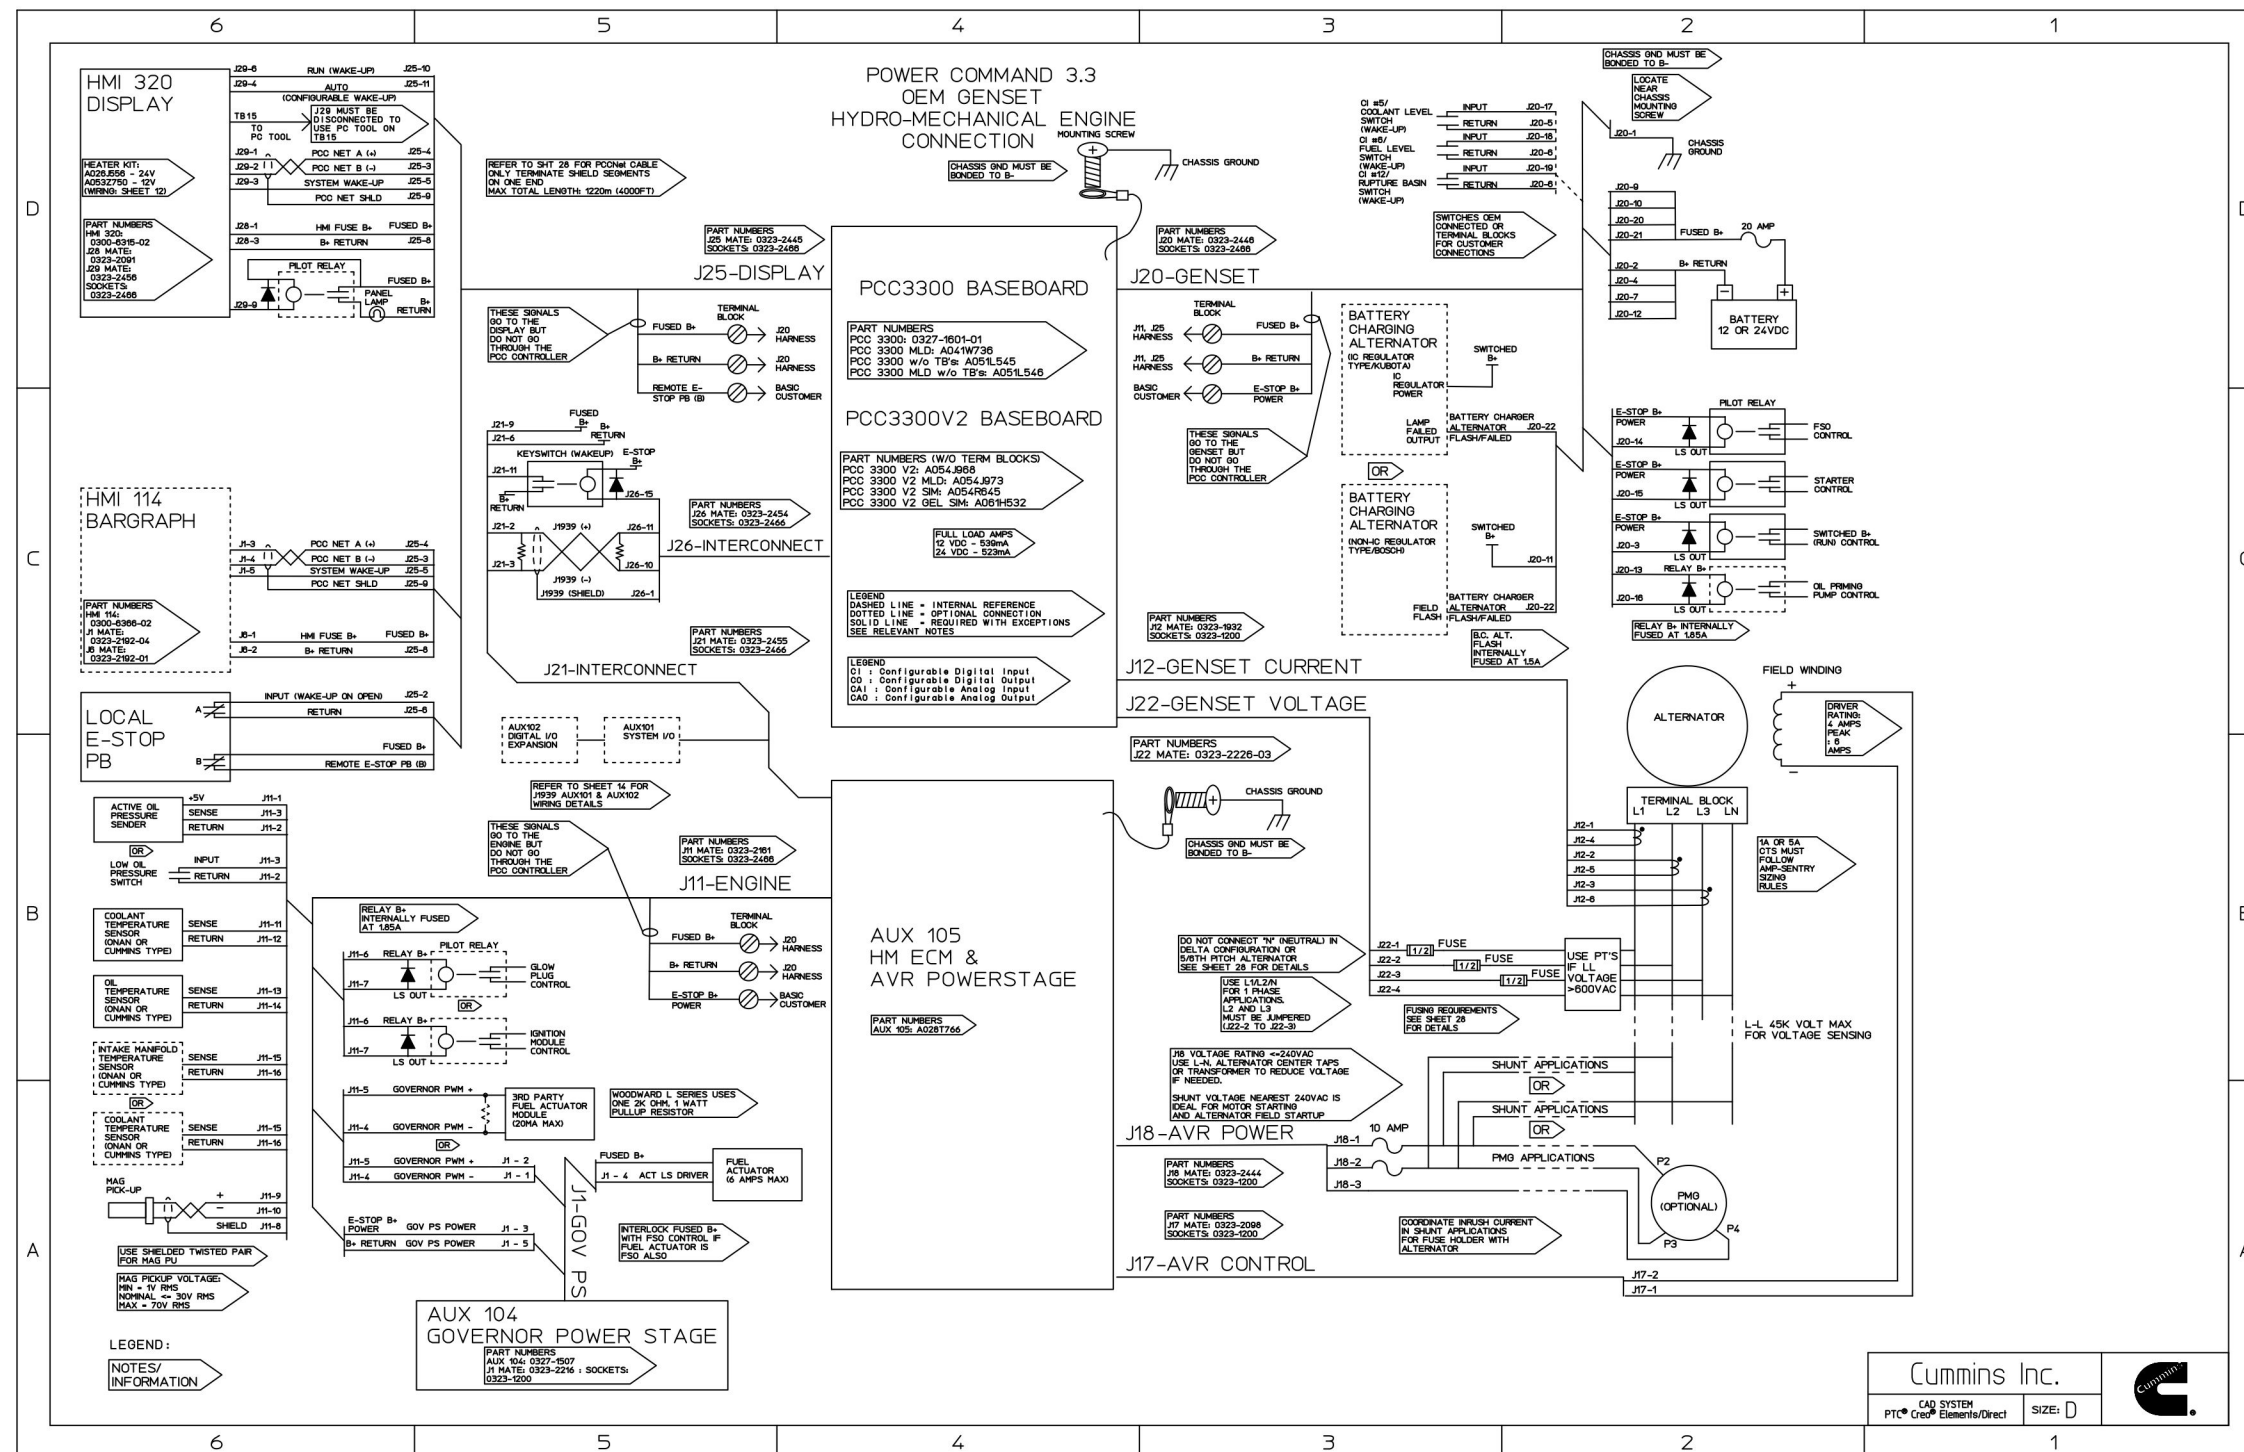

FIGURE 104. POWERCOMMAND 3.3 CONNECTIONS - HYDROMECHANICAL ENGINE
- Figure 104. PowerCommand 3.3 Connections - Hydromechanical Engine 408